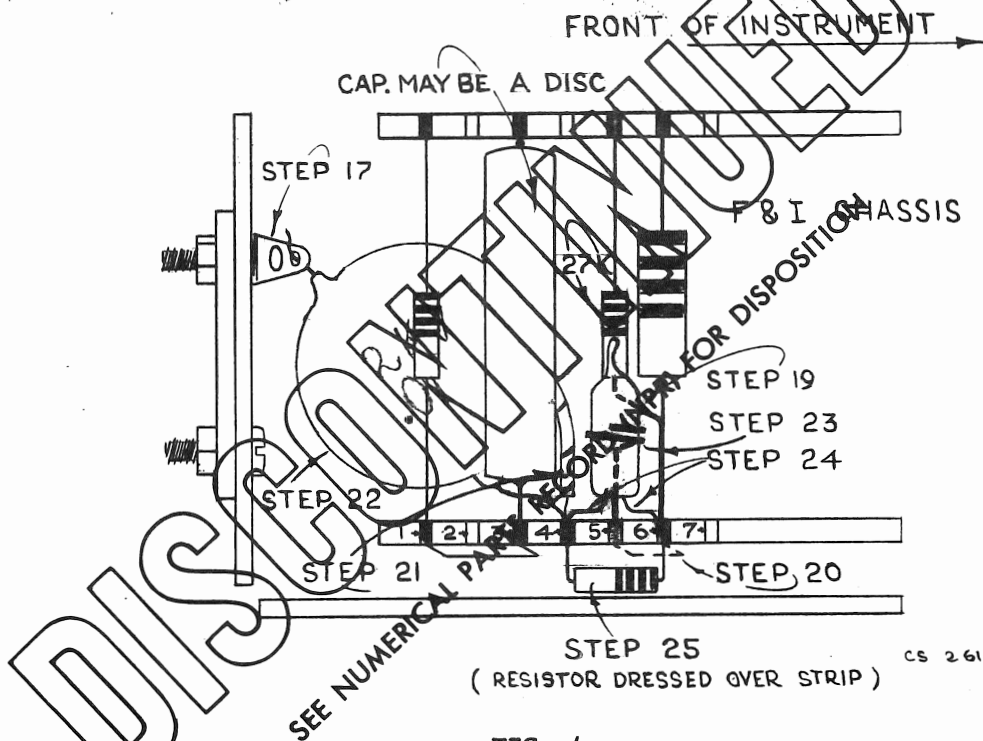

FIG. 4
- () 17. Install the solder lug (from kit) under one of the screws holding the F & I chassis to the support bracket (see Fig. 4, Step 17).
- () 18. Locate the ceramic strip shown at the bottom of Fig. 4. Note how the notches are numbered in the drawing.
- () 19. Unsolder the 27 K resistor lead from notch 5. Bend the lead sharply near the resistor body and bend it again to lie next to the adjacent resistor lead (see Fig. 4, Step 19). Solder the lead to notch 6.
- () 20. Remove the bare wire between notches 5 and 6 (see Fig. 4, Step 20).
- () 21. Move the white-brown wire from notch 5 to notch 4 (Fig. 4, Step 21).
- () 22. Dress the .01 μ f discap (from kit) parallel and close to the chassis. Solder one lead to the solder lug and the other lead to notch 4 (see Fig. 4, Step 22).
- () 23. Solder the neon bulb clamp (from kit) in notch 5, so that the loop "points" upward (see Fig. 4, Step 23).
- () 24. Slip the neon bulb (from kit) into the bulb clamp and solder the bulb leads to notches 4 and 6 (see Fig. 4, Step 24). Dress the leads slightly away from the ceramic strip.
- () 25. Dress the 1 meg resistor (from kit) directly over the ceramic strip and solder the leads to notches 4 and 6 (see Fig. 4, Step 25).